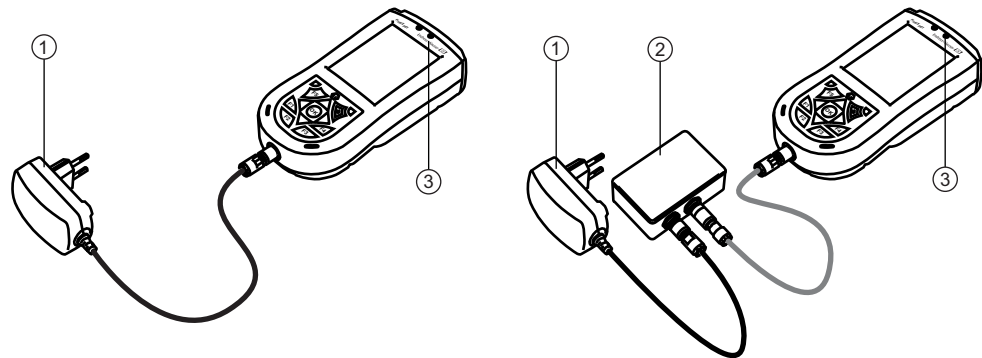

Fig. 4-2: Charging using a charger or USB interface box
- The batteries can be charged directly or through the USB interface, see Fig. 4-2